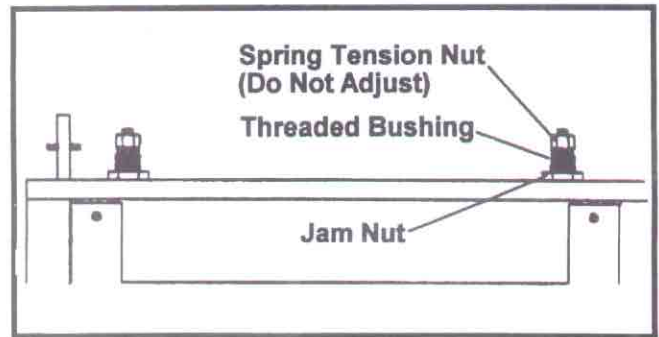

Fig. 8
8. Raise or lower the feed roller until it rests on top of the block end to end. To adjust the feed roller (Fig 8):